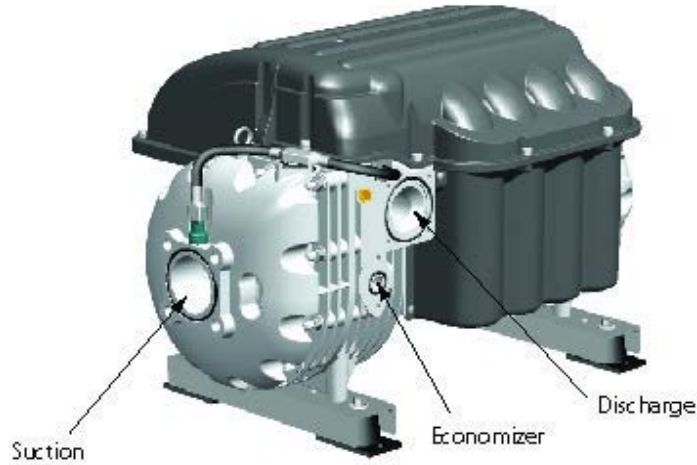

Figure 1 Discharge Port
2. Align the discharge valve/flange with the compressor discharge port (see **Figure 1**).